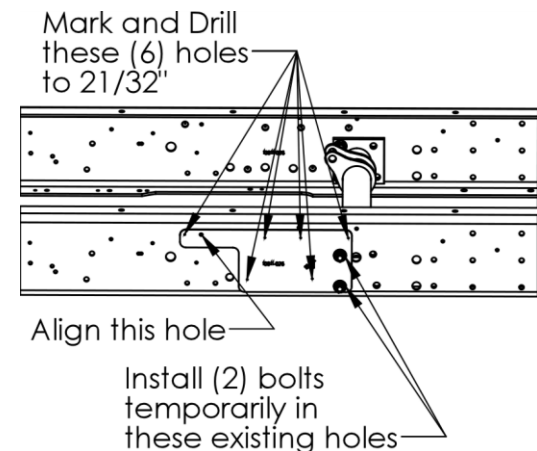

Figure 8. Location of Drilling Template on Driver Side of Frame – DS175
10. **For DS175F53:** Locate the frame drilling template (10811-026) and place along the frame as shown in Figure 8 and Appendix C: Frame Drilling Locations, Figure A 3 and Figure A 4.